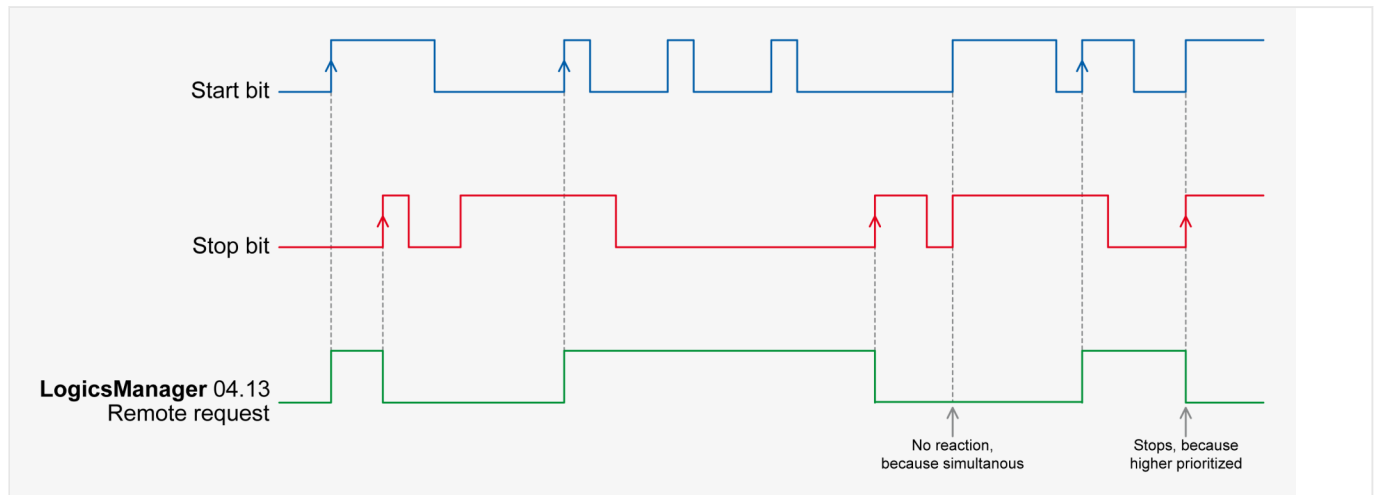

Fig. 281: Command variable
- The command variable "04.13 Remote request" changes to "0" (low) if the stop bit (ID 503, bit 1) changes from "0" to "1" (➡ Fig. 281).